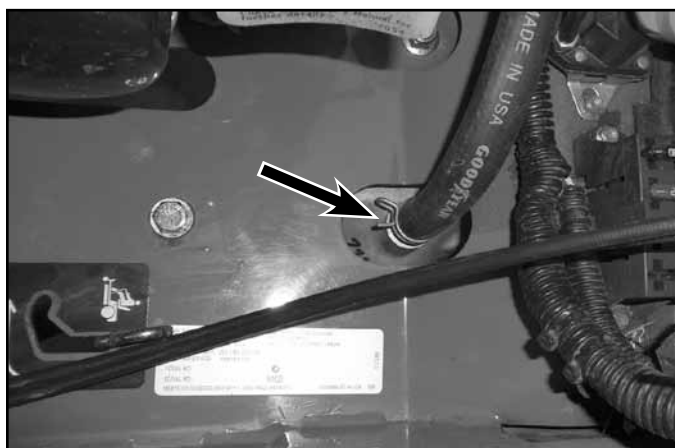

Fig. 082
5. Connect the hydro reservoir hoses at the hydro fitting (Fig. 082).